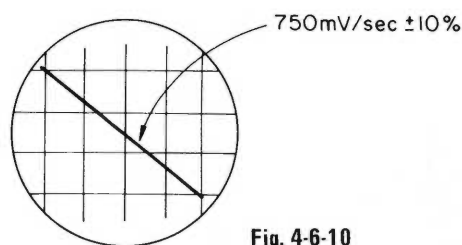

Fig. 4-6-10
- 3) Under the condition, make sure that a diagonal line on the scope is within 750mV/sec $\pm 10\%$ as shown in Fig. 4-6-10.
- 4) Check inclination of the waveform appearing on the oscilloscope at this time is 750 mV/sec $\pm 10\%$ as shown in Fig. 4-6-10.